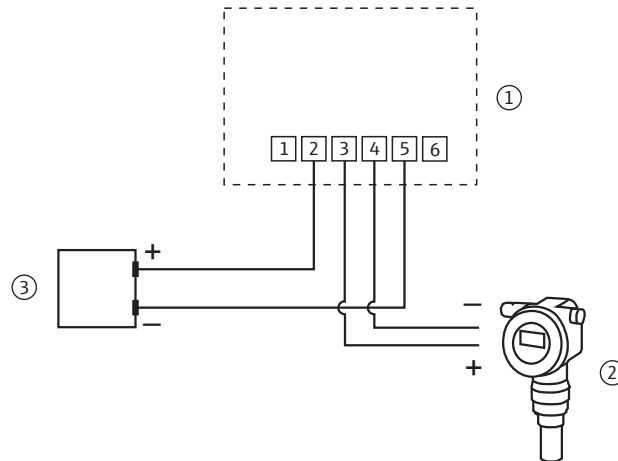
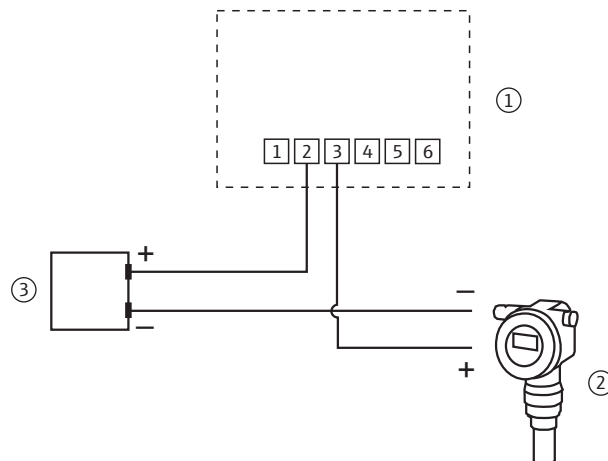

Fig. 5-7: WirelessHART adapter with battery unit – connection of a field device in a closed-control loop without a communication resistor, with a two-wire cable
Fig. 5-8: WirelessHART adapter with battery unit – connection of a field device in a closed-control loop without a communication resistor, with one signal cable
- The connection circuits in fig. 5-7 and fig. 5-8 are electrically identical as terminal 4 is connected internally to terminal 5.